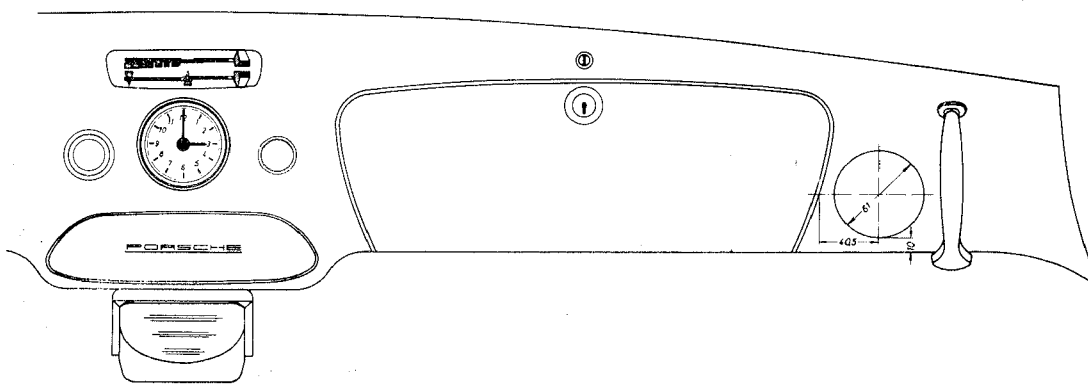

Fig. 1
2. Mark and then practise orifice on the right hand side beside the glove box (see Fig. 1).